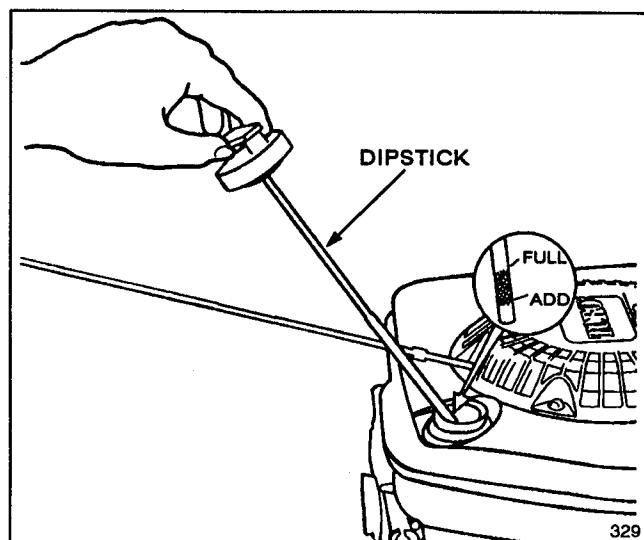

Figure 3
Before each use, ensure oil level is between FULL and ADD marks on dipstick (Fig. 3). Add oil if level is low.
1. Position mower on level surface and clean around oil dipstick (Fig. 3).
3. Wipe dipstick and insert it into filler neck. Rotate cap clockwise 1/4 turn. Then remove dipstick and check level of oil on side of dipstick with FULL and ADD marks (Fig. 3). If level is low, add only enough oil to raise level to FULL mark on dipstick. **DO NOT FILL ABOVE FULL MARK BECAUSE ENGINE COULD BE DAMAGED WHEN STARTED.** POUR OIL SLOWLY.
1. Clean around fuel tank cap and remove cap from tank (Fig. 3). Using unleaded gasoline, fill fuel tank to within 1/4" to 1/2" (6 to 13 mm) from top of tank, not into filler neck. Do not fill tank full.